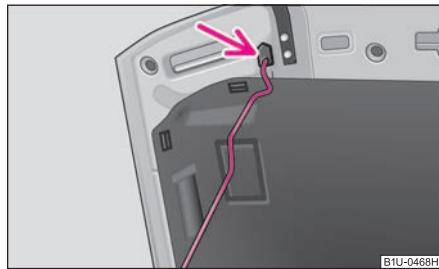

Fig. 144 Securing the bonnet with the bonnet support
- Take the bonnet support out of its holder and set it in the opening designed for it ⇒ fig. 144.